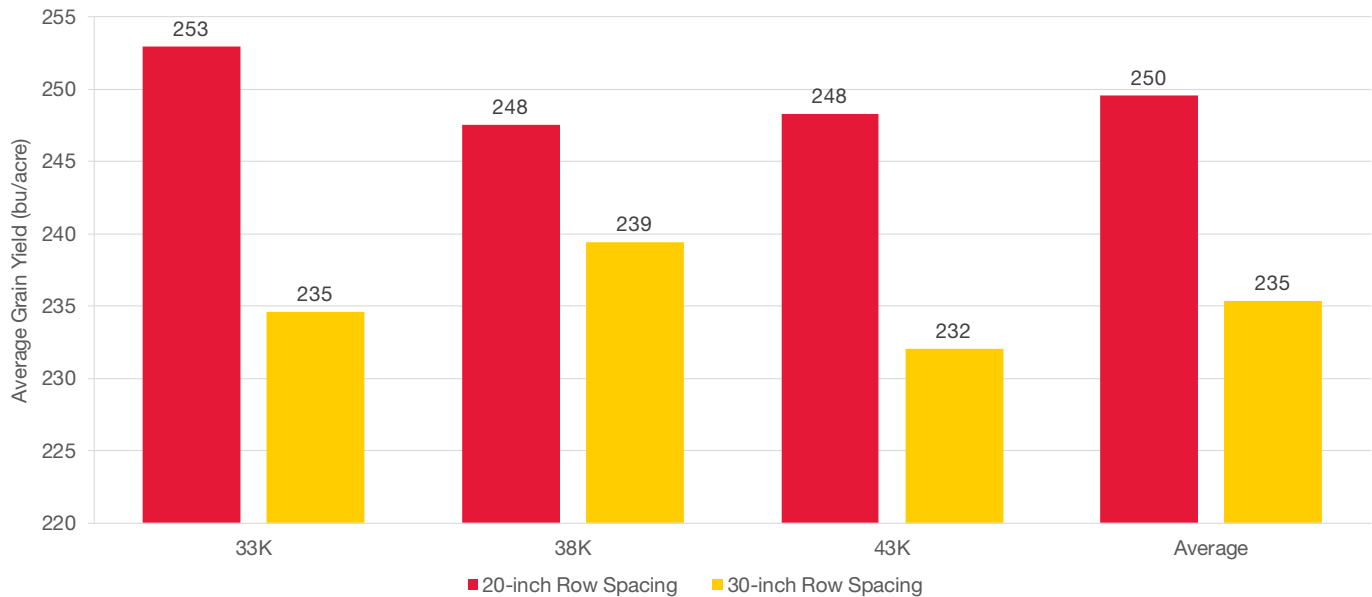

Figure 3. Effects of seeding rate and row spacing on corn product performance, averaged across all four corn products.
- Across all products, 20-inch row spacing substantially out-yielded 30-inch row spacing at all seeding rates (Figure 3). When averaged across all corn products, 33K seeds/acre was the highest yielding seeding rate in 20-inch row spacing and 38K seeds/acre was the highest yielder in 30-inch row spacing (Figure 3).
- At most production sites, 20 inches has been shown to be a better row spacing than 30 inches for corn production. Where equipment is available, this option should be considered. In this trial, an average yield advantage of 15 bu/acre was realized with 20-inch row spacing (Figure 3).